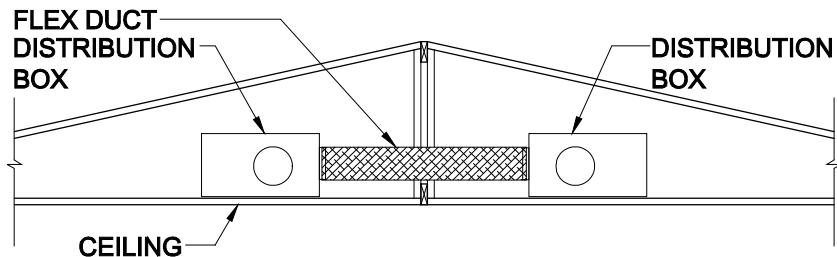

Figure 34. Duct crossover located in the roof cavity
2. **Join ducts.** Using the provided flexible duct, join the distribution boxes in each section of the home as shown in **Figure 34**, cutting off any extra duct length to keep the duct as straight as possible. The duct must be joined in the center with the provided connector.